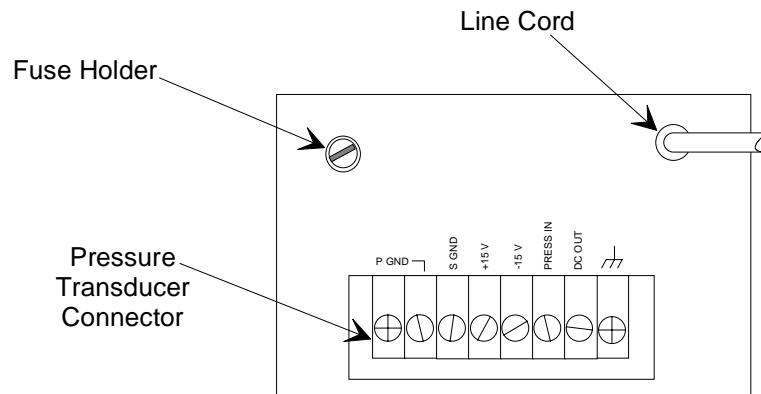

Figure 4: Rear Panel Controls
8. Use an external meter to measure the DC output voltage for this channel. Reference the meter to S Gnd on the input connector. Refer to Figure 4, page 28. This voltage should track the input voltage of step 7 to within ± 0.2 Volts. If it does not, the problem lies in the channel amplifier and zero circuit. If the voltage does track but the digital meter does not agree, either the meter or the overrange comparator is defective. Return the unit to MKS for further troubleshooting.